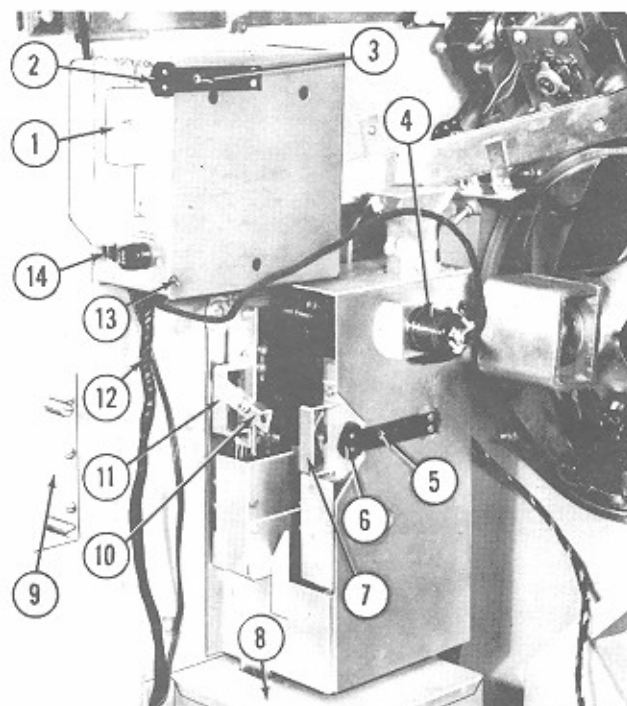
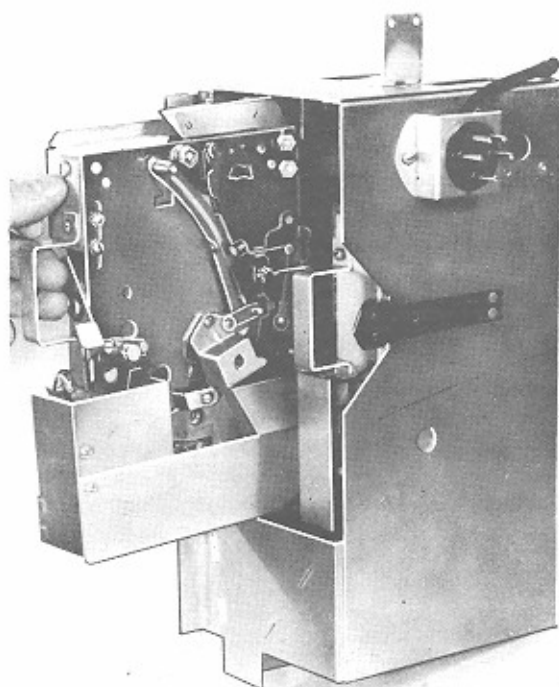
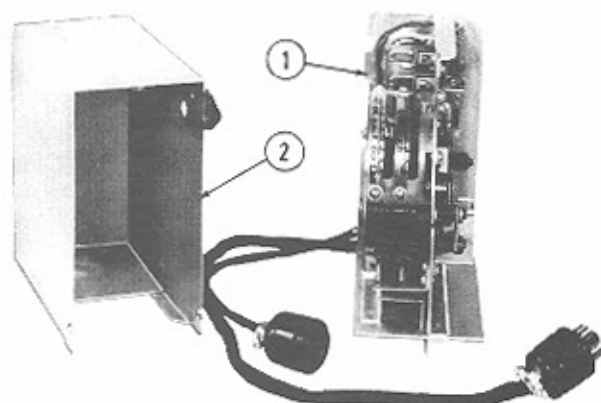

Fig. 2. COIN EQUIPMENT ARRANGEMENT
Fig. 3. SLUG REJECTORS
Fig. 5. COIN REGISTER MECHANISM
a. The slug rejectors and the coin register mechanism are mounted on the inside right hand wall of the phonograph cabinet as shown in Figure 2. The slug rejector unit evaluates the coins passing thru and either rejects or accepts them in accordance with their quality and denomination. Electrical impulses are transmitted to the coin register mechanism by the various coin switches on the slug rejectors. The coin register mechanism (Fig. 3) sets up selection credits in accordance with the denomination of the coins accepted and the price per play as pre-set on the coin register mechanism. Electrically the coin register is the key to the electric selector system. It keeps track of the plays paid for and cancels one off each time a selection is made. When all plays are cancelled it stops the phonograph. As a part of the electric selector system the functional sequences of the slug rejectors and coin register will be in schematic form on pages 13 thru 22.
a. To remove the slug rejectors for inspection or adjustment, remove the back door and loosen or take out the shipping screw that holds the spring latch for the 50¢ unit (Fig. 2). Unlock the turn button on the 5-10-25¢ unit and slide the slug rejectors to the rear. See Figures 3 and 4.
b. To remove the coin register mechanism for adjustment or re-setting, loosen or take out the shipping screw in the spring latch. Unlatch the unit and swing it back and down on the hinge pins (Fig. 2). To remove from the cabinet, disconnect the two junction plugs and disengage the hinge pins from the cover. See Figure 5.